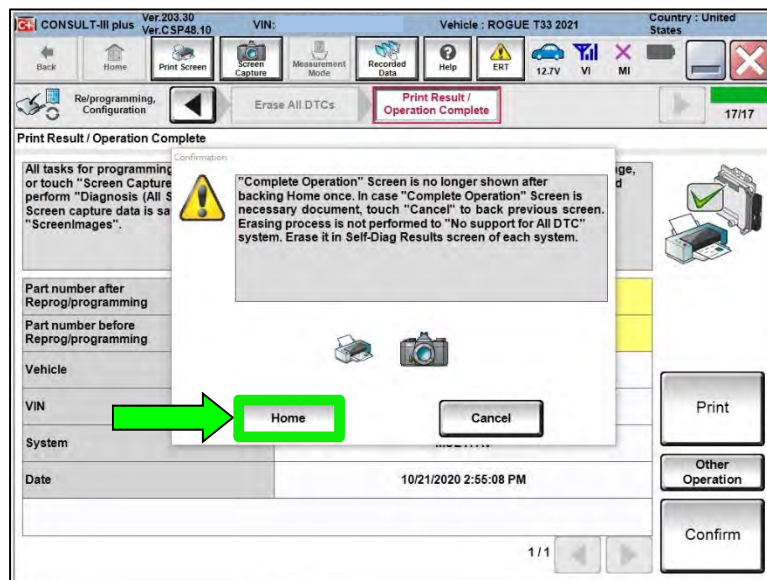

Figure 11
14. If the screen in Figure 11 displays, select **Home**. If the screen in Figure 11 does not display, skip to step 15.